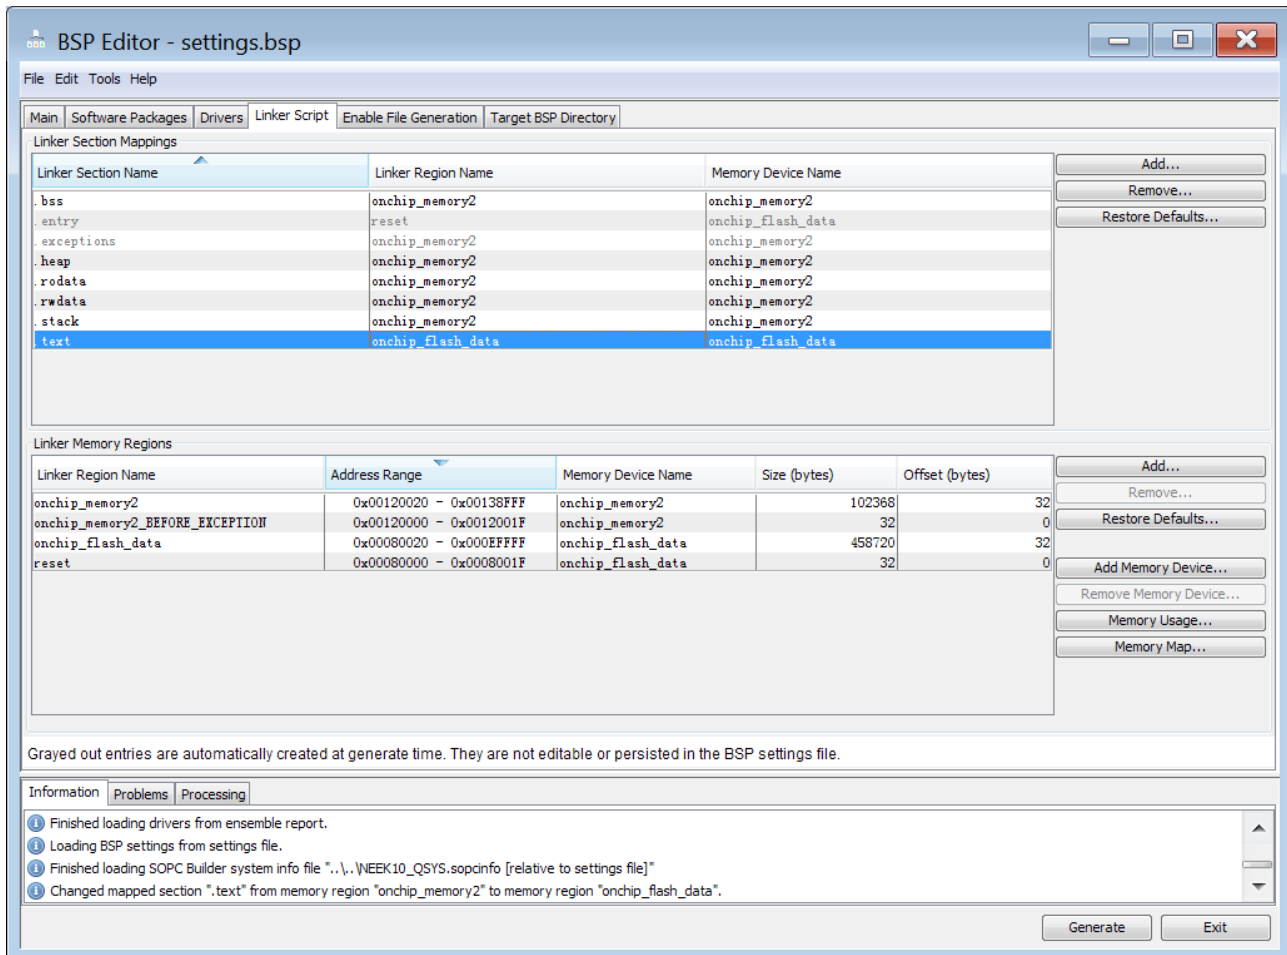

Figure 3-10 Setup the Linker Script
4. Click on the **Linker Script** tab in Nios II BSP Editor. Set the **.text** item in the Linker Section Name to the Altera On-chip Flash in the Linker Region Name. Set the rest of the items in the Linker Section Name list to Altera On-chip RAM, as shown in **Figure 3-10**.